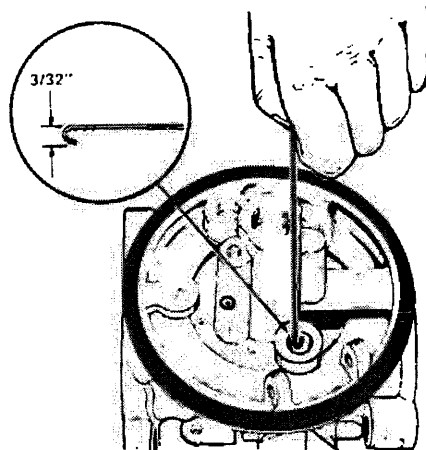
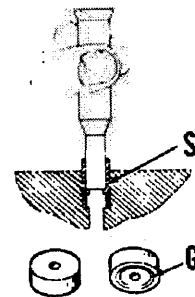

Fig. E3-6—Viton inlet needle seat (13—Fig. E3-2) may be removed by pushing a small hook through seat and pulling.
Fig. E3-7—Use a 5/32 inch (3.9687 mm) flat punch to install new inlet needle seat. Install seat with grooved side (G) down.
Viton inlet needle seat (13), should not be removed unless renewal is intended. To remove seat (13), fashion a small hook from a paper clip, insert hook through seat and pull seat out of brass sleeve (Fig. E3-6). Do not try to remove brass sleeve. New Viton inlet needle seat may be driven into brass sleeve with a 5/32 inch (3.9687 mm) flat punch after lubricating sleeve with a drop of light oil. Seat must be installed with grooved side (G—Fig. E3-7) down. Make sure the needle seat is completely seated in brass sleeve (S).